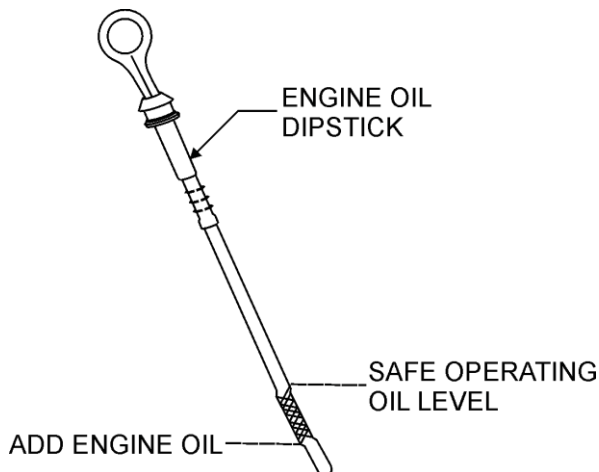

Figure 6. Engine Oil Dipstick
3. Verify that oil level (Figure 6) is maintained between the two notches on the dipstick.